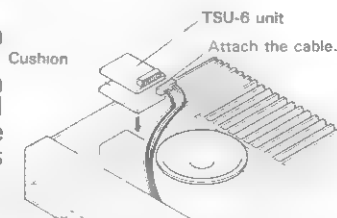

Fig. 2
3. Remove the backing from the small cushion provided with the TSU-6 and attach it to the back of the TSU-6 as shown in Fig. 2.
4. Attach the cable from TSU-6 as shown in Fig. 2.